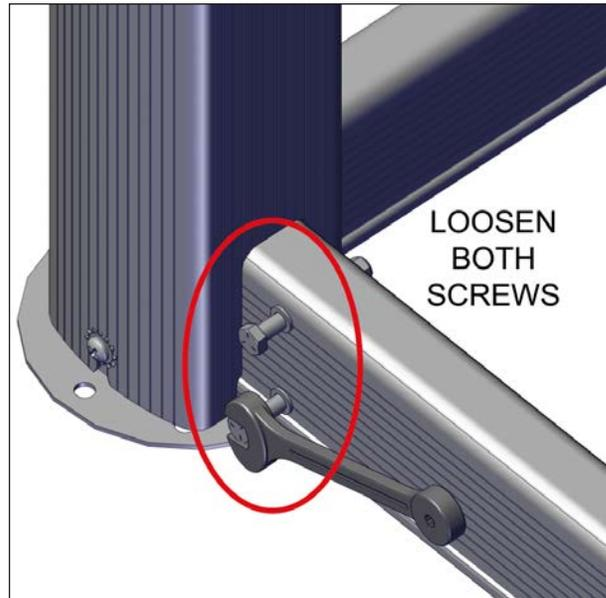

FIGURE 35: LOOSEN BOTH SCREWS
7. Loosen both screws on the U-frame located on the opposite corner of the light push button, see Figure 35.